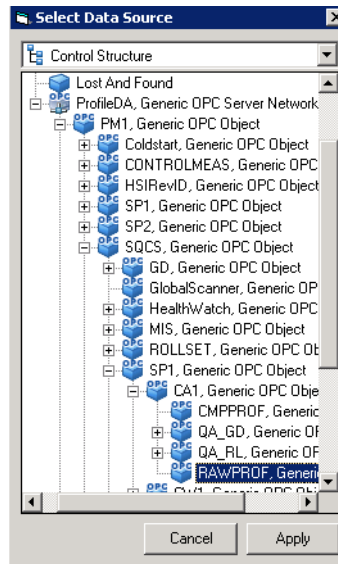

Figure 201. Selecting the OPC Tag
2. Use this dialog to select the OPC object which holds the profile data as demonstrated in Figure 201. Typically, the object is located in the Control structure, under the Generic OPC Network object for the Profile data server.